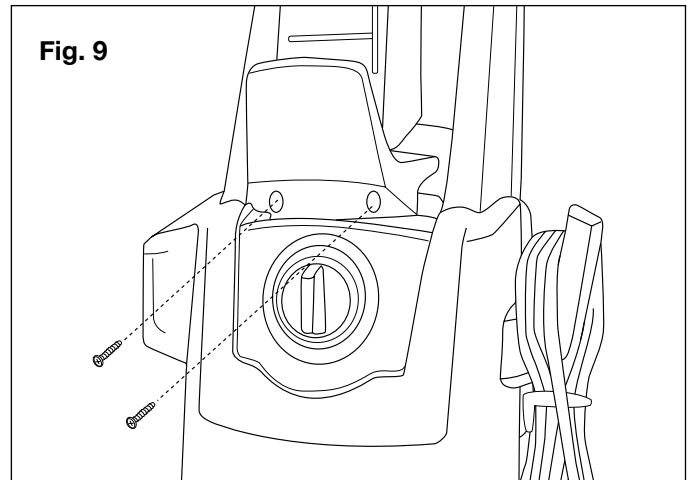
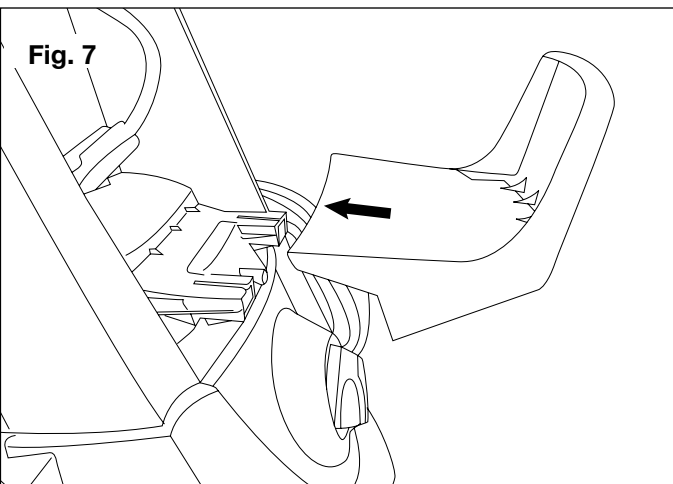

Fig. 9
Fig. 7
6. To assemble the hose holder, slide the holder into position (Figs. 7 & 8) and secure it to the unit with two small screws (Fig. 9).